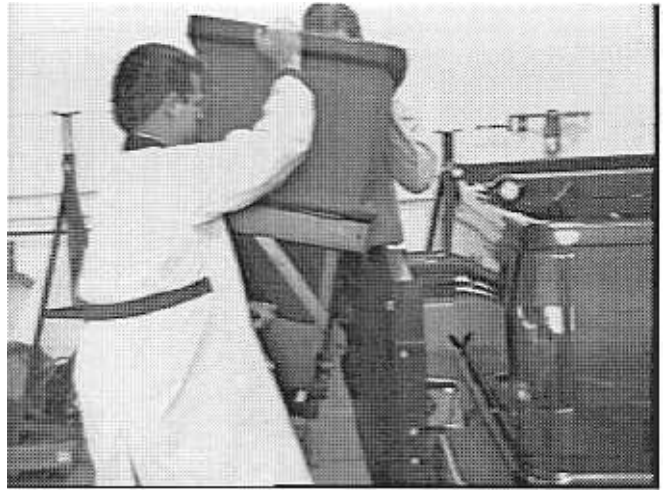

Figure 13
1. Lift hopper assembly and tip slightly forward. See Figure 13.